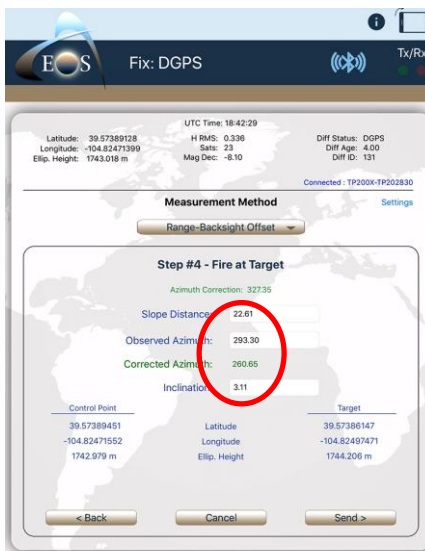

Figure 13B
- 13B. **Step #4:** Aim and fire the laser system at the Target point, confirm values for Slope Distance, Azimuth and Inclination come through (Figure 13B)